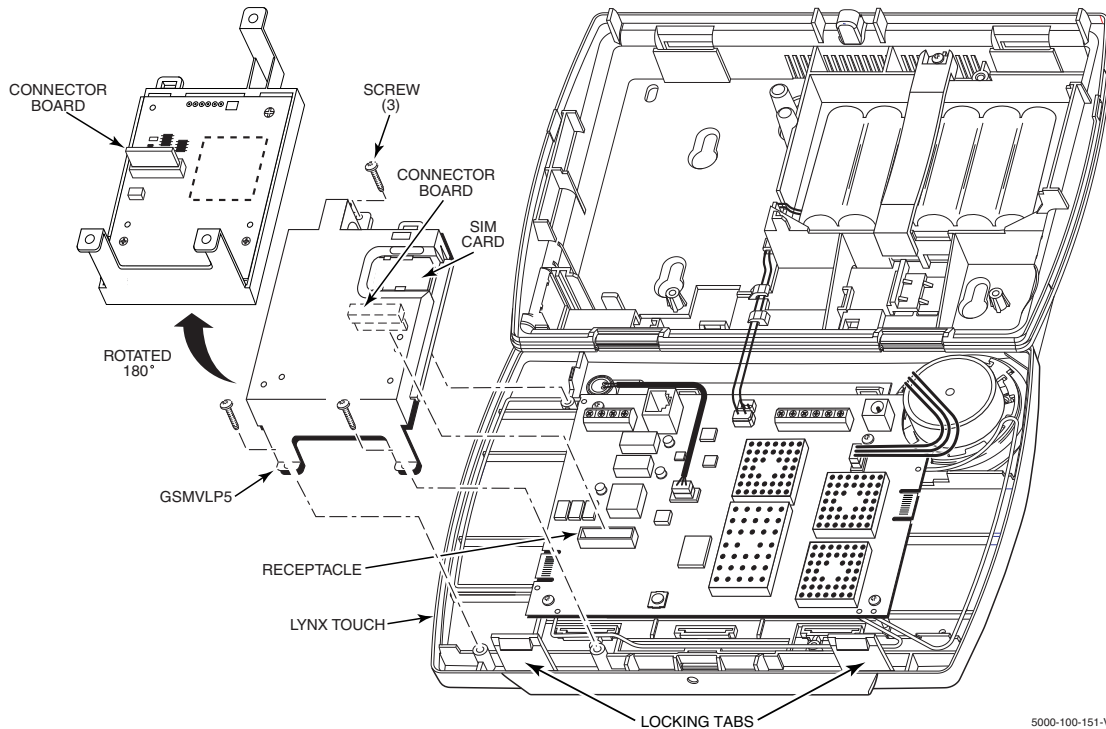

Figure 2. Installing the GSMVLP5 in the LYNX Touch
2. Release the LYNX Touch front case from the back case by depressing the two locking tabs at the top of the unit with the blade of a medium size screwdriver (Refer to Figure 2).
3. Install the GSMVLP5 into the LYNX Touch control front case. Ensure that the connector board is properly seated into the receptacle on the control (Refer to Figure 2).
4. Secure the GSMVLP5 with the three provided screws (Refer to Figure 2).